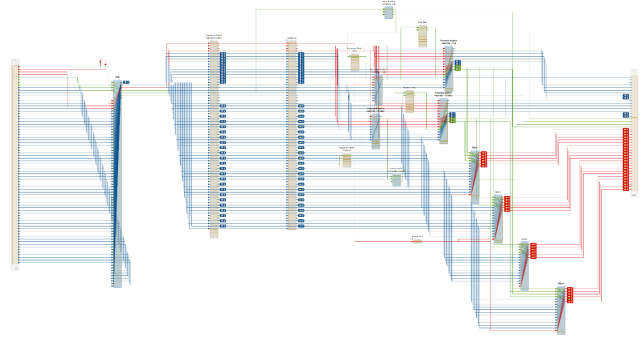

Figure B65: System/Simulation Presentation
- 4) Watch (capture/record) simulation steps in the functional diagram space [Figure B65 - propagations (up, side-to-side, and down arrows) will appear, and the diagram may change as well until the next step or equilibrium is reached] and review results (Step V.C) to verify failure propagation is rational and fault tolerance/inhibits are sufficient.